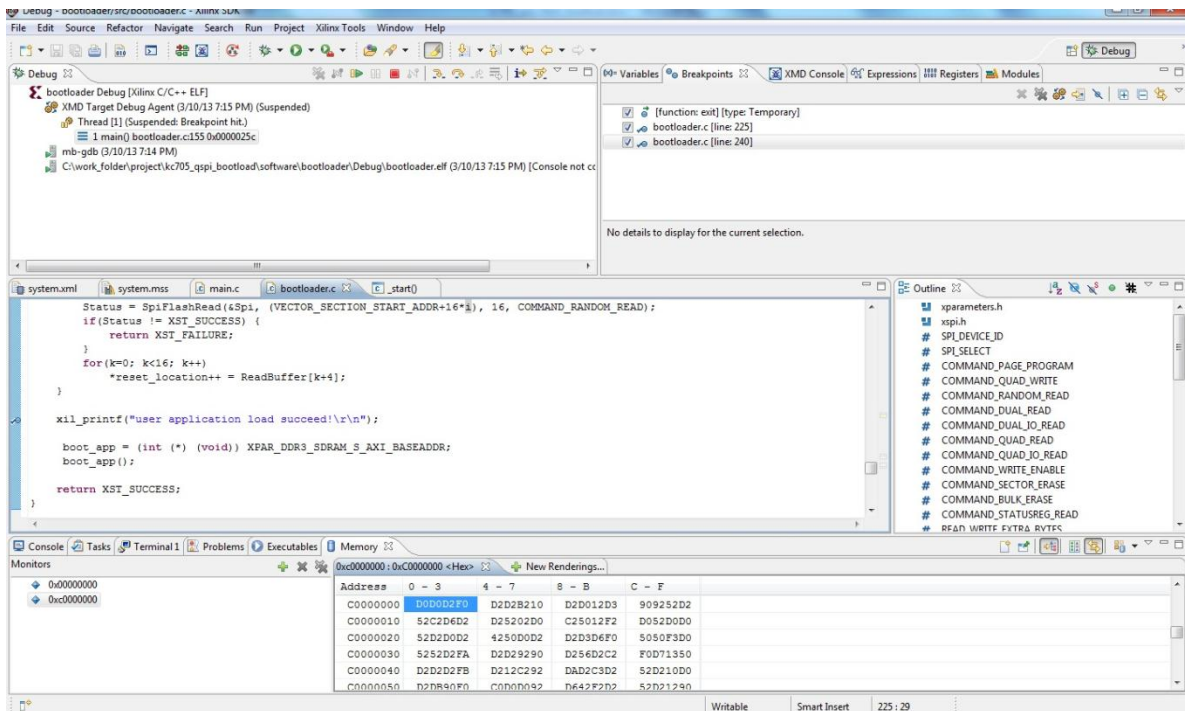

Figure 11
- e. In the debug perspective, set two breakpoints at line 225 and 240. At line 225 rest_section data is copied to DDR3 memory address 0xC0000000. At line 240, vector_section data is copied to address 0x00000000. In Memory tab at bottom, create views for 0x00000000 and 0xC0000000(Figure 11).